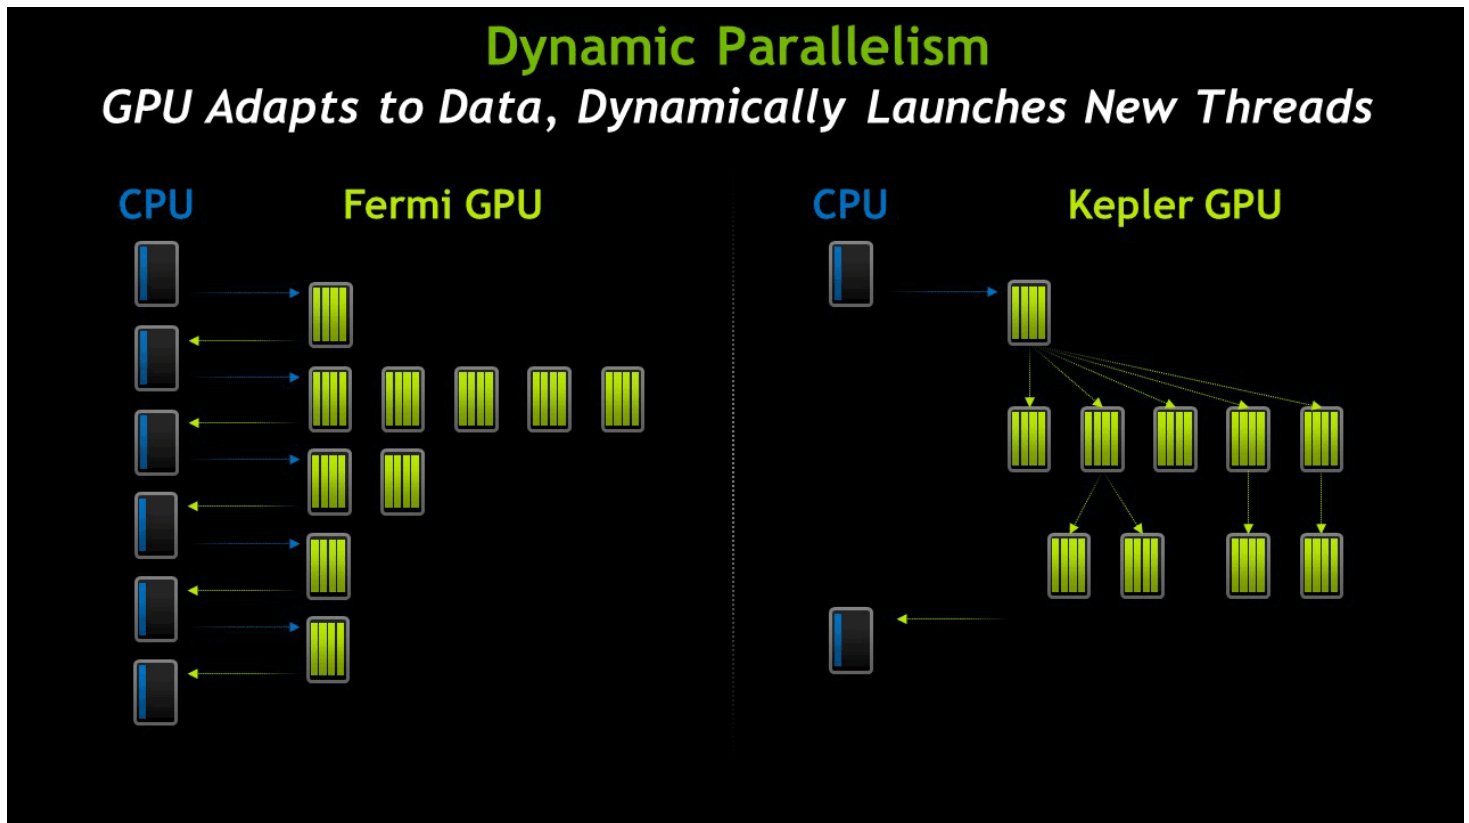

Figure 7. Dynamic Parallelism
- Figure 7. Dynamic Parallelism